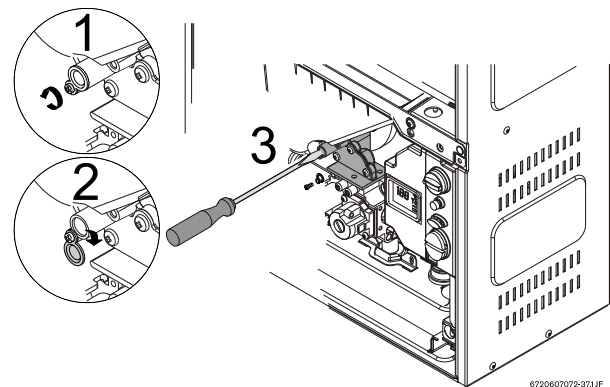

Fig. 37
- ▶ Loosen yellow painted Philips screw (1) and cover should rotate down (2) revealing a brass slotted screw. Fig. 37.